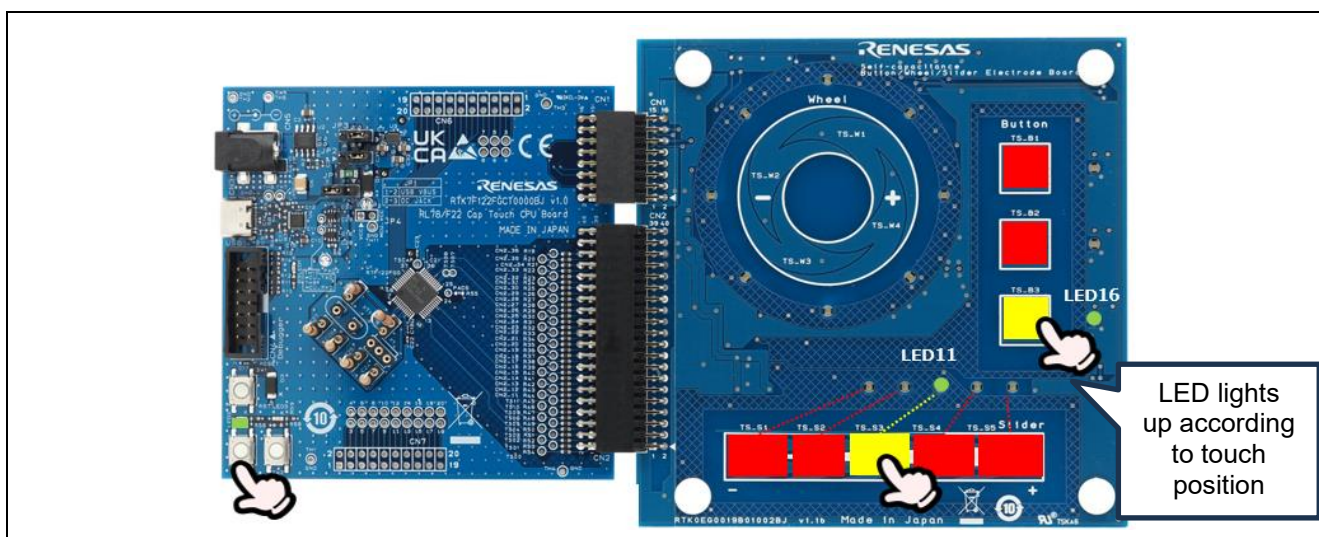

Figure 1-2 LED Control in Conjunction with Capacitive Touch Buttons, Slider Movements
2. The LEDs are controlled in conjunction with the operation of the three buttons, slider on the touch electrode board. (See Figure 1-2). LED control is performed in conjunction with the push button on CPU board. Pressing SW2, LED2 lights up. Pressing SW3, LED3 lights up. (See Figure 1-2)